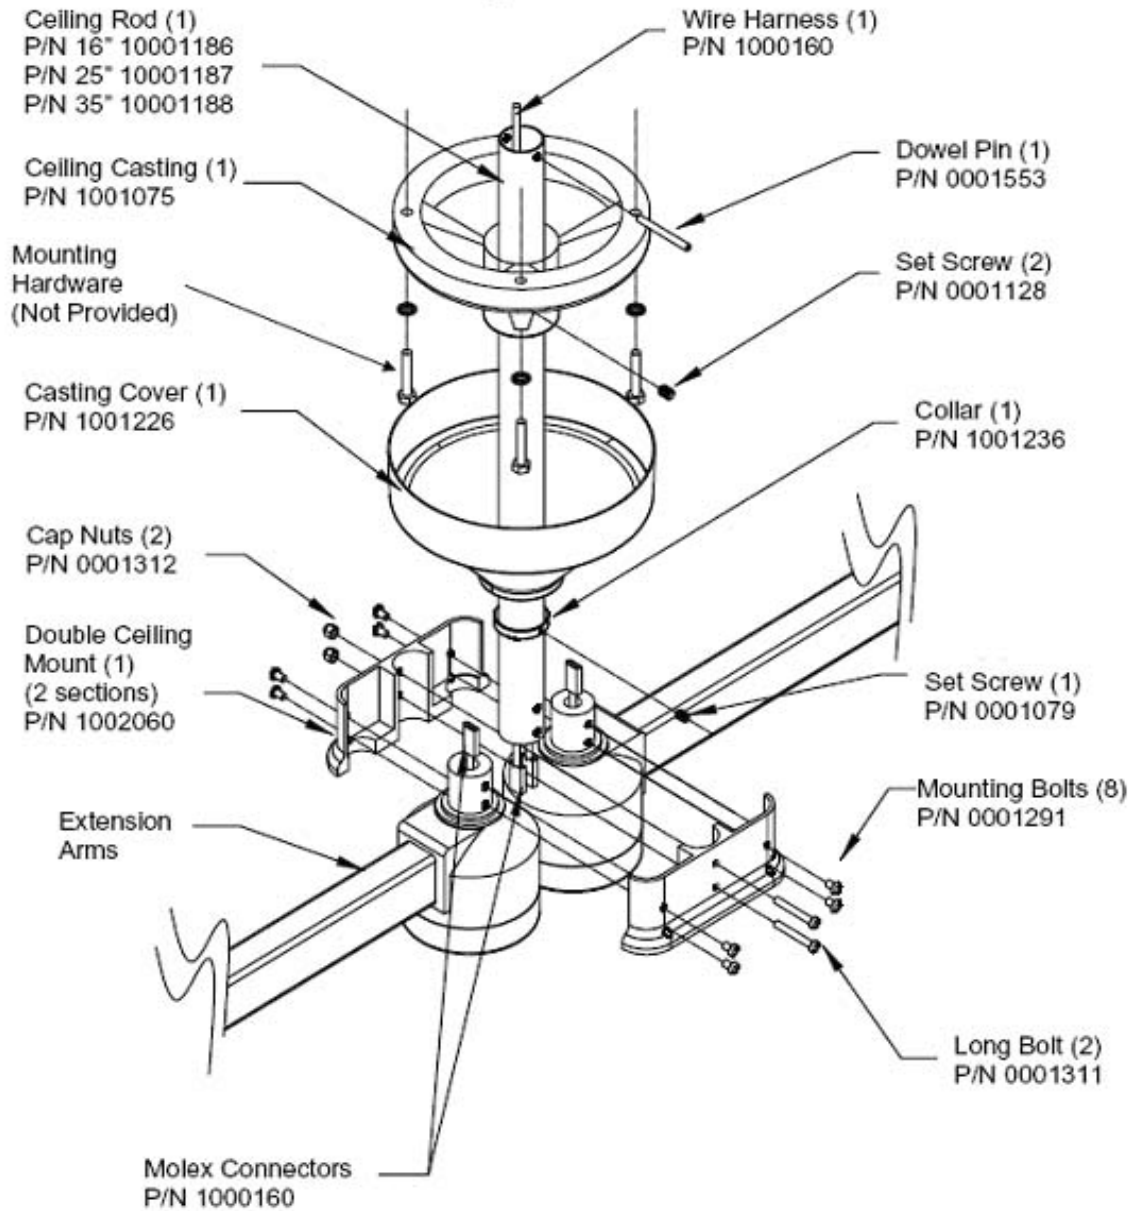

FIGURE 9: Double Ceiling Mount Installation
- Insert the ceiling rod up through the ceiling casting until the hole in the ceiling rod becomes visible (see figure 9). Insert the dowel pin into the hole in the ceiling rod and lower the rod in the ceiling casting, making sure the pin is seated securely in the indentation on the ceiling casting. Securely tighten the two set-screws located in the casting.
- Position the two extension arms as shown in figure 9 to allow for easier mounting of the remaining double mount section. Firmly press the fastened double ceiling mount section against the ceiling rod. While firmly holding the double ceiling mount section in place, remove only the cap nuts from the 2" long bolts. It is strongly recommended that a second person hold the arms in place while the nuts are removed. Place the remaining double ceiling mount section onto the bolts. Be sure the wires are enclosed within the wire channel to avoid pinching them. Replace the cap nuts and fully tighten. Install the remaining four $\frac{3}{8}$ " long mounting screws and then fully tighten all eight screws.